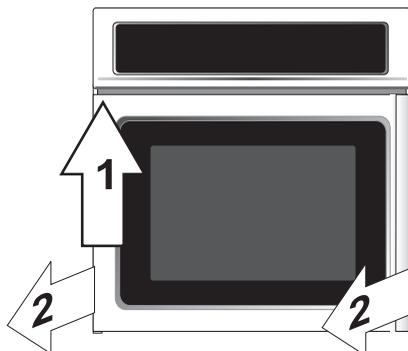

Figure 7
3.1.2. Support and lift up the door such as to clear the lower hinge pin (Figure 7).
- 3.2.1. Remove the six (6) screws and washers located on the right side of the oven frame (see B, Figure 7). Keep the screws and washers to reinstall them at step 3.2.5.